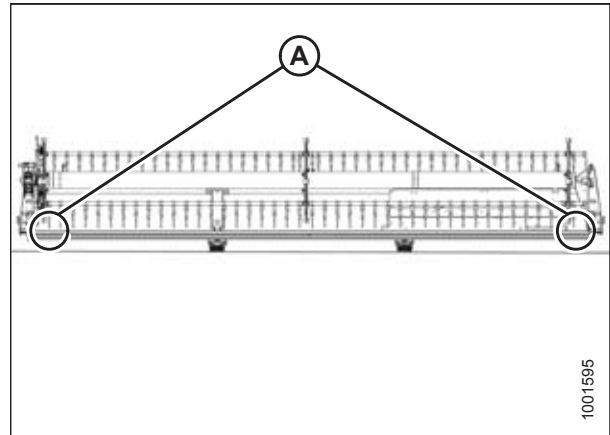

Figure 5.30: Single Reel Measurement Locations – Two Places
5. Measure the clearance (X) at all possible points of contact (between points [B] and [C] at the ends of each reel [A]) as shown in Figure 5.30, page 66 and 5.31, page 66.